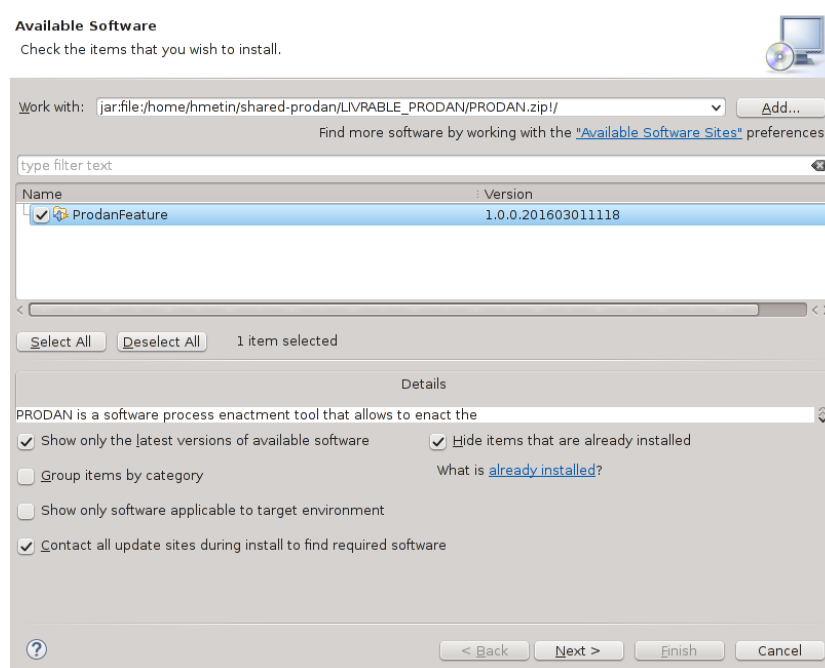

**Figure 1 ProDan update site installation**
| Figure 1 ProDan update site installation .....                                  | 5  |
3. Select the plug-in PRODAN and click on Next (Figure 1 ProDan update site installation) . Click on Next once again for the installation details.